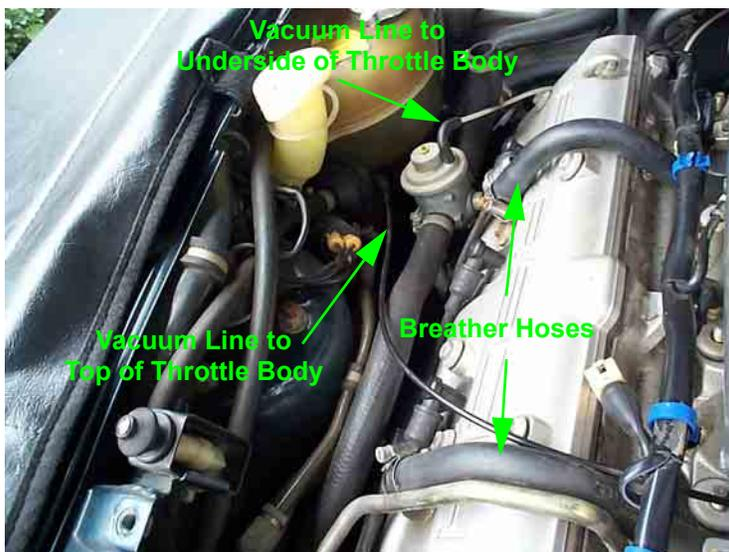

FIGURE 10
- e. Disconnect the cam cover breather hoses on the passenger side from the cam covers. See *Figure 10*. On a GTS the front-most hose was removed previously.
- f. Disconnect the two vacuum lines on the passenger side. *See Figure 10.*